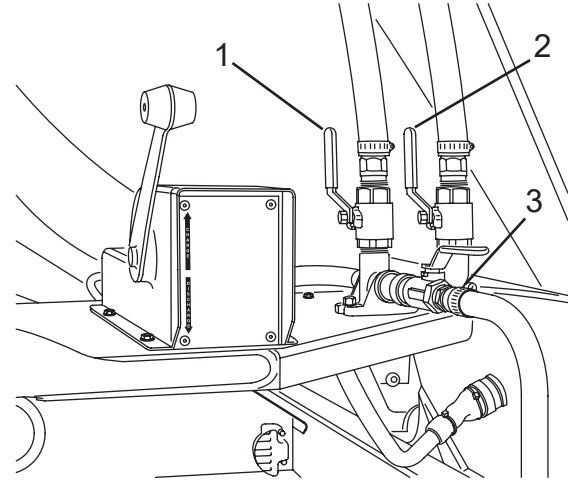

Figure 97
12. Open wash-out hose valve (Figure 97, Item 3) at the rear of the Mixer and allow water to drain.
13. Open wash-out valve (Figure 97, Item 1) and add-water valve (Figure 97, Item 2) and allow water to drain through wash-out hose.